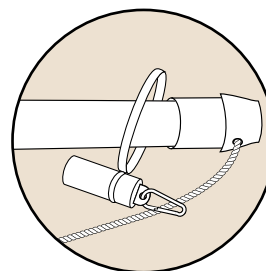
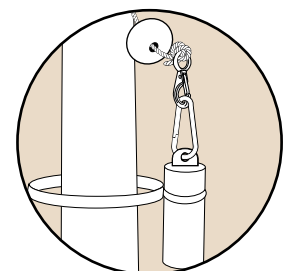

Fig 7,
Fig 8,
10. Slide the assembled weight over the cone making sure that it is the correct way up, (See Fig 7) and clip on the weight. (See Fig 8)